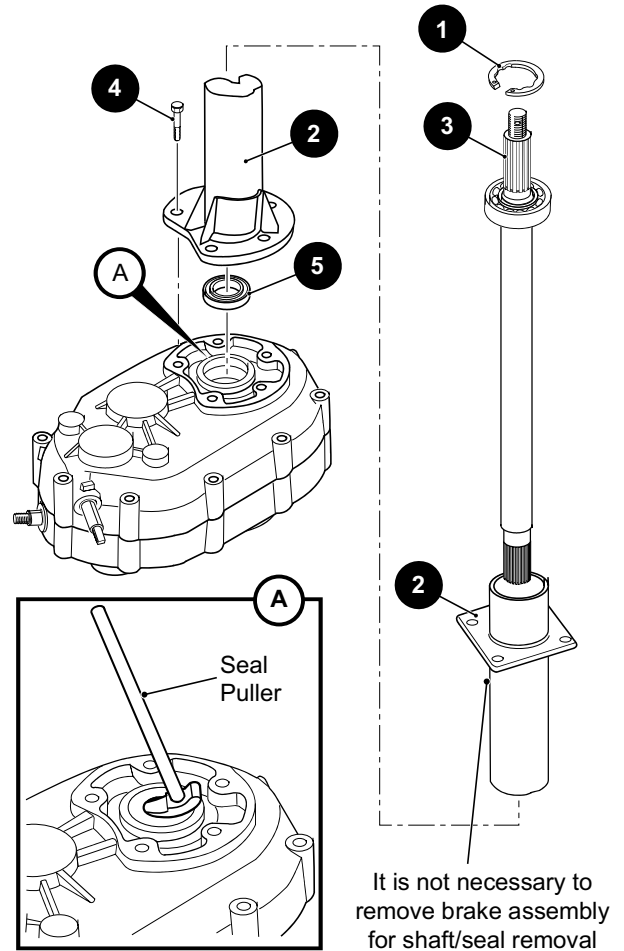

Figure 6 Removing/Installing Seal
Using snap ring pliers, remove the bearing retaining ring (1) from the end of axle tube (2) (Figure 6).